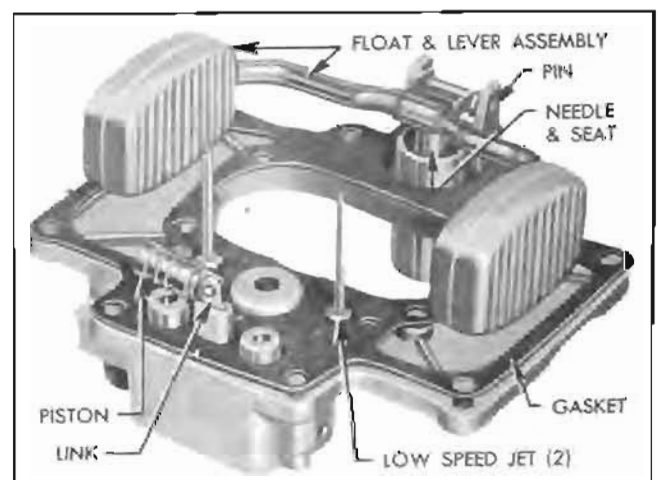

Figure 3-34—Parts Assembled on Bowl Cover
9. Swing vacuum meter piston $\frac{1}{4}$ turn to remove it from piston link then remove link from bowl cover. See figure 3-34.
fully remove float assembly, install both low speed jets and a new bowl cover gasket and re-install float assembly. See figure 3-34.